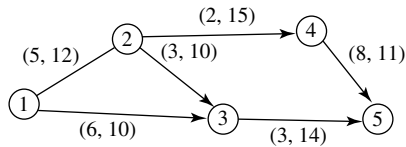

Figure 6.78
- (b) In the following weighted graph (Figure 6.78), establish the fact ‘maximum flow minimum cut’